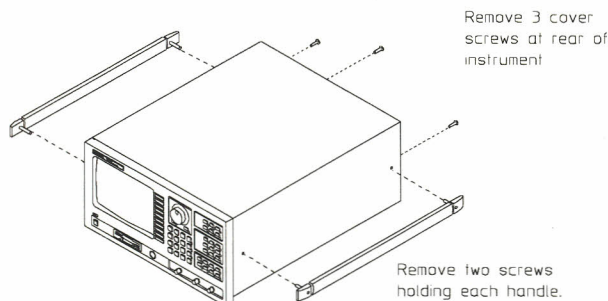

Figure 1
2. Follow the procedures outlined in figures 1 and 2 to remove the top cover.
4. Replace the side handles by screwing in each handle's 2 screws, see figure 1.